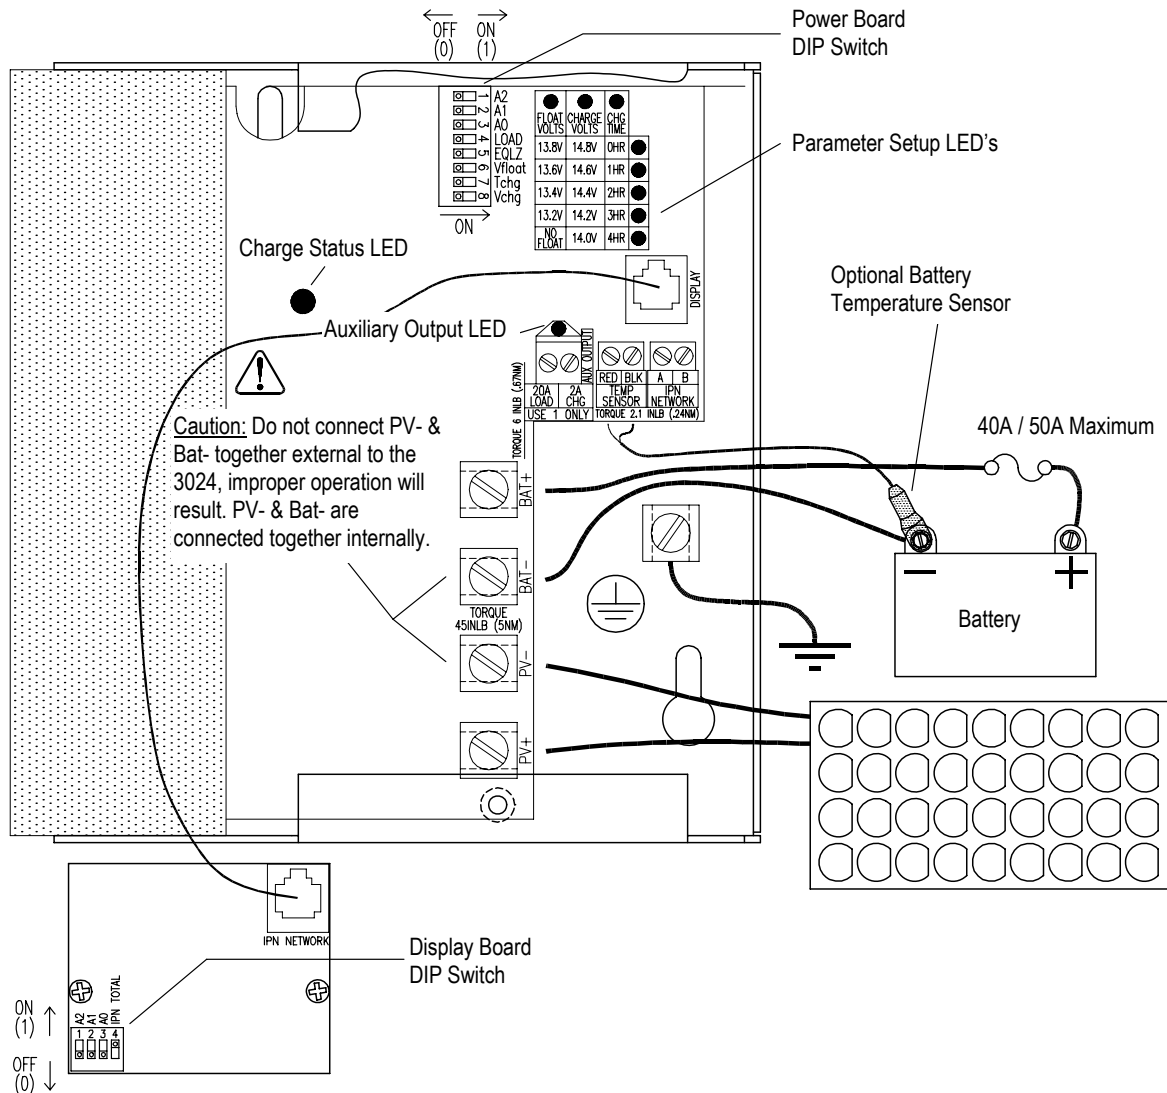

FIGURE 3
➤ Setup parameters are divided into two categories, Basic and Advanced. Basic parameters can be configured with the 3024 alone within limited steps and ranges as shown in Figure 3. Advanced parameters require the IPN-ProRemote to access. The IPN-ProRemote also allows basic settings to be configured in smaller steps and over wider ranges. All setup parameters are retained if power is lost, or the IPN-ProRemote is used as a setup tool only and removed.
2. Turn ALL 8 power board DIP switches shown in Figure 3 ON.
Acceptance Charge Voltage, Float Charge Voltage and Charge Time setpoints can be viewed or changed using the parameter setup LED's and DIP switch shown in Figure 3. Operate only one switch at a time. To view the present setting turn the appropriate DIP switch ON momentarily (V_{CHG} #8, V_{FLOT} #6 or T_{CHG} #7). For a 24V battery the actual voltage setpoints are doubled.
The auxiliary output can serve one of three functions; a 2A auxiliary battery charger, a 20A load controller with Low Voltage Disconnect (LVD), or a 20A variable Dusk-to-Dawn lighting load controller. The Charge/Load function is selected by DIP switch #4 shown in Figure 3. The IPN-ProRemote is required to adjust LVD thresholds or enable Dusk-to-Dawn lighting control. Auxiliary outputs in a multi-controller system will function normally, but only the auxiliary output in the master can be configured or monitored using the IPN-ProRemote. The auxiliary output "Load" LED will illuminate whenever the auxiliary output is ON.